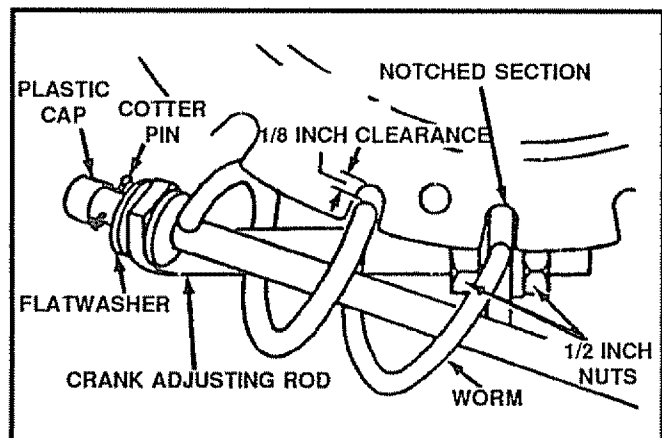

FIG. 5
- Remove the plastic cap, the cotter pin and the washer from the wormed end of the crank assembly and set aside (See Fig. 5).
- Rotate the chute crank fully clockwise and fully counter-clockwise. The discharge chute should rotate fully to the outer diameter of the worm and should clear approximately 1/8" (See Fig. 5). If the chute crank needs to be adjusted, see To Adjust Chute Crank Assembly on page 16.